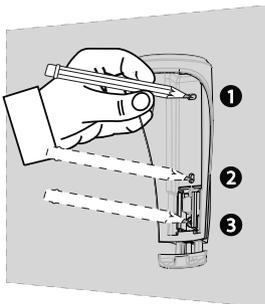

Figure 4:
1. Use the uppermost and middle holes in the device bracket to mark two holes in the mounting surface. See Hole Number 1 and Hole Number 2 in Figure 4.
2. Optional: To avail of tamper protection, use the bottommost hole in the break-away segment of the bracket to mark a third hole in the mounting surface. See Hole Number 3 in Figure 4.